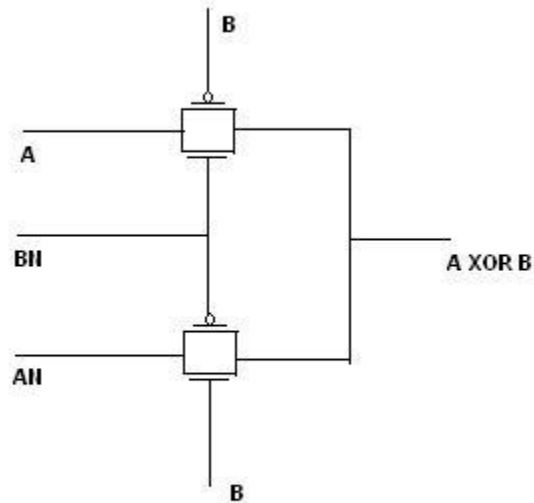

Fig 13.12
13.4) Verify, using SPICE, that the circuit seen in Fig. 13.12 operates as an XOR gate.